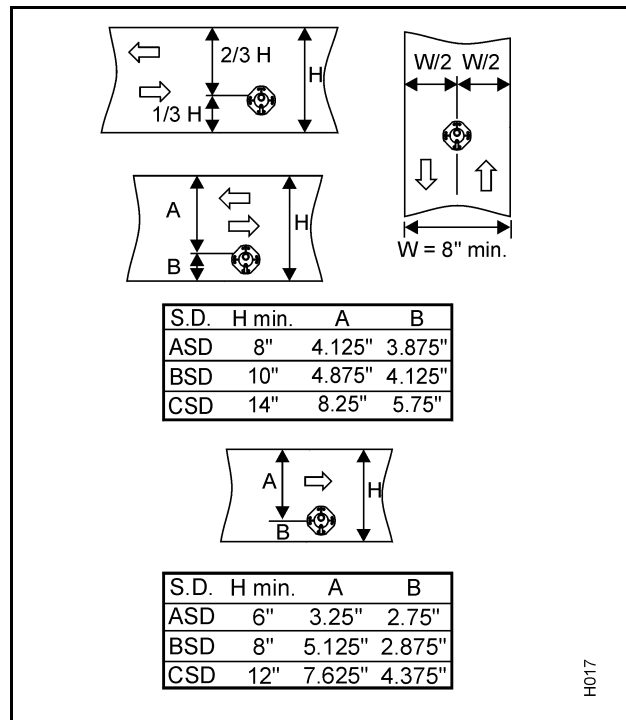

Figure 11. Single Steam Distributor Installation – Minimum Clearance
- (1) NORTEC distributors can be mounted in air handlers, supply air ducts or return air ducts. Return air ducts should only be considered if all of the return air enters the building again and is not exhausted by the air handling device. Distributors should be mounted center or low within the duct or plenum. (See Figure 11.) Laminar airflow is best. Down stream obstruction must be considered. The non-absorbed steam may affect devices like smoke detectors down stream. Total steam absorption must be accomplished before filters and silencers.